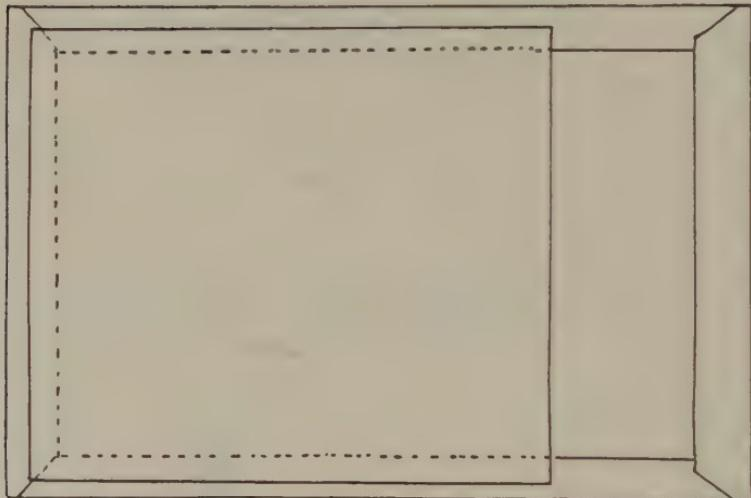

FIG. 78—BACK OF FACE BOARD WITH LINING PAPER AFFIXED
14. Next glue-off and affix paper back to face board. This piece of paper, the only one left, $4\frac{3}{16}'' \times 4\frac{3}{4}''$. It goes over the lower section of the board. (Fig. 78.)